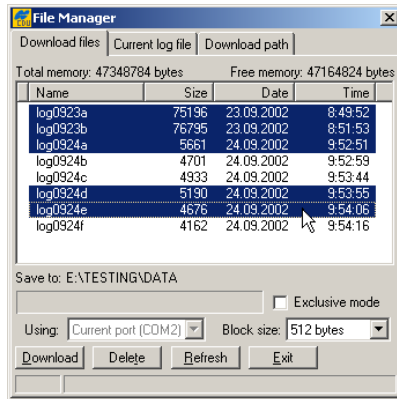

Figure 4-4. Download Files
5. Click the **Download files** tab and select the file(s) to download (Figure 4-4 on page 4-12).